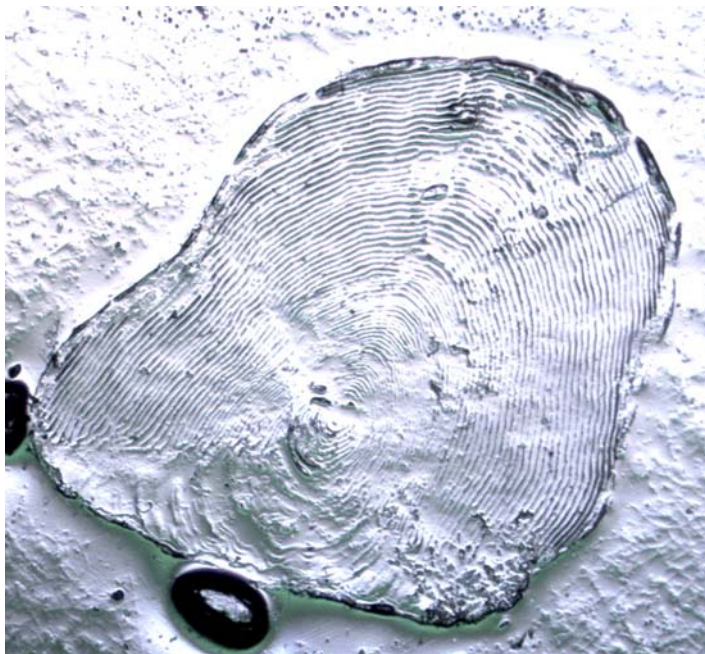

Fig.11. Indistinct, poorly pressed chinook scale impression.
11. If any or all scale impressions look indistinct or impressed too “lightly” into the acetate (Fig. 11 &12) then another impression is required.
- Fig.11. Indistinct, poorly pressed chinook scale impression.